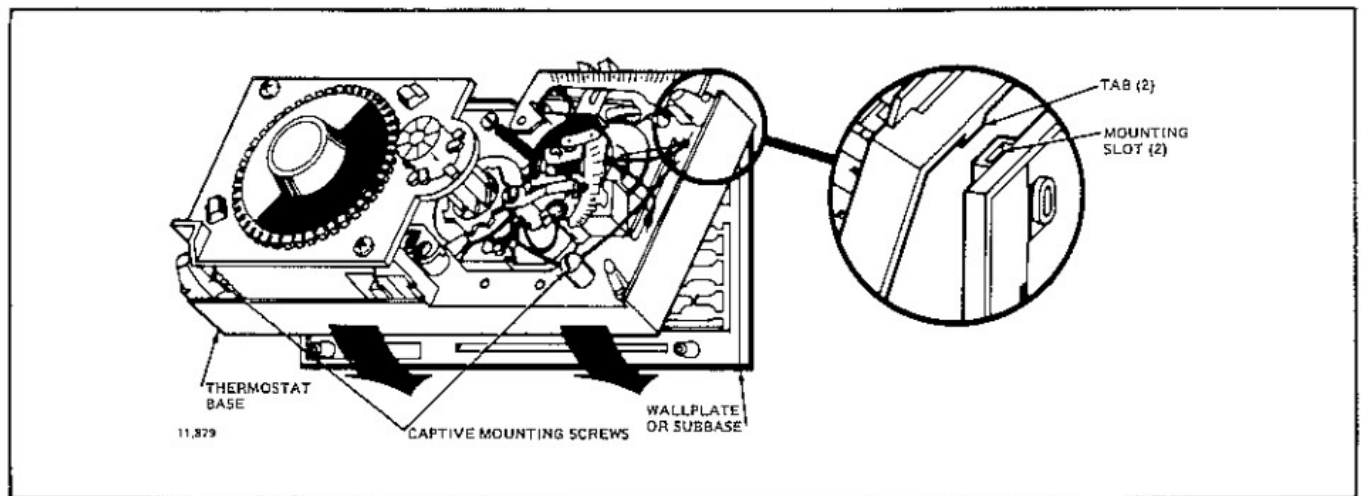

Fig. 5—Thermostat mounting.
- Insert the two captive mounting screws located in the bottom corners of the base (Fig. 5).